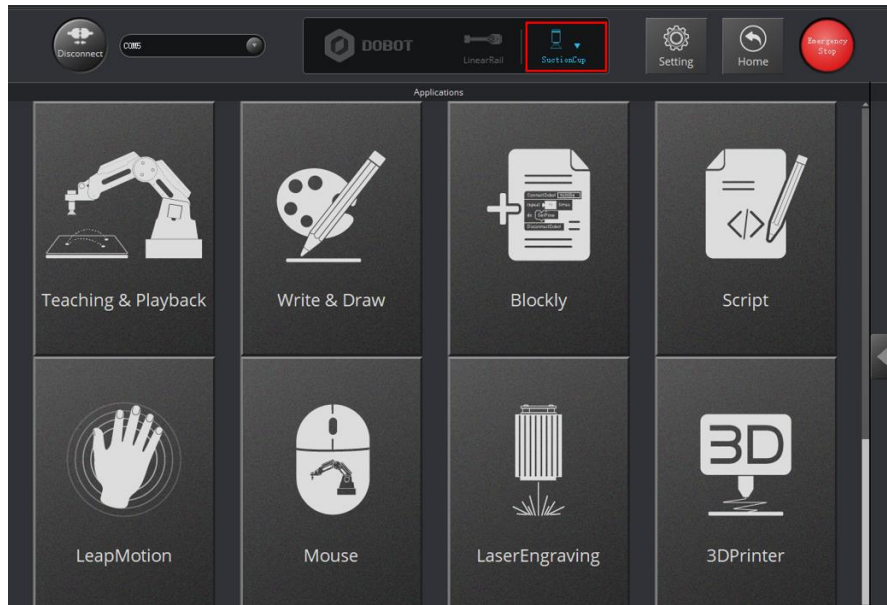

Figure 5.25 Choose SuctionCup as the end-effector
Step 1 Choose **SuctionCup** as the end-effector on the **DobotStudio** page, as shown in Figure 5.25.